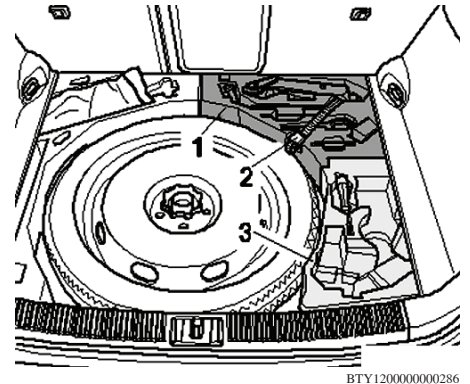

Fig. 5 Rear insert location
4. Remove rear molded insert (3), which holds vehicle tools located under luggage compartment floor, **Fig. 5**.
8. Install rear molded insert (3), **Fig. 5**.